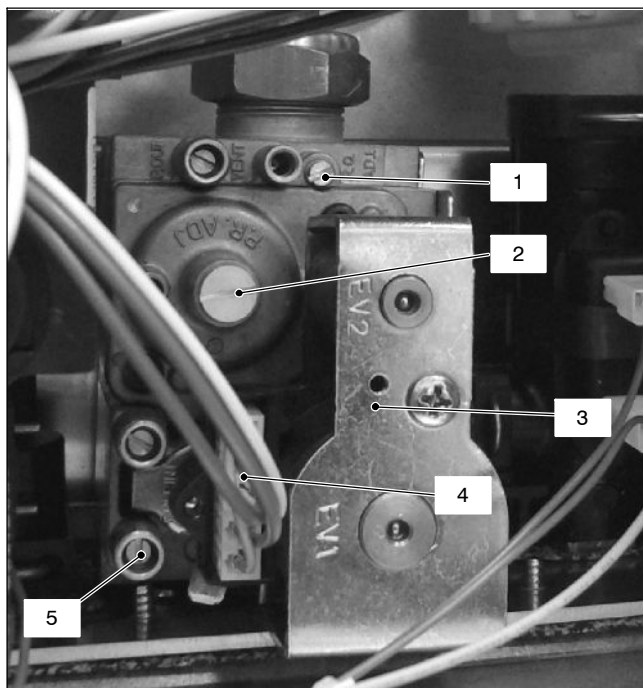

Fig. 11.2
### 11.2 Description of the parts (Fig. 11.2)
- 3 Loosen the internal screw on the Inlet Pressure Test Point 5 (Fig. 11.2) of the Gas valve and connect a pressure gauge using a suitable hose.
- 10 Disconnect the pressure gauge and close the Inlet Pressure Test Point 5 (Fig. 11.2).
To adjust the CO2 % value remove the brass plug by unscrewing it and rotate the Allen key screw  $\varnothing$  4 mm (2 – Fig. 11.2) (by rotating it clockwise the CO2 % increases).
To adjust the CO2 % value rotate screw (1 – Fig. 11.2) (by rotating it clockwise the CO2 % decreases).
26 After adjustment fit the protective brass plug (2, Fig. 11.2).
2 Disconnect the electrical connector 4 (Fig. 11.2).